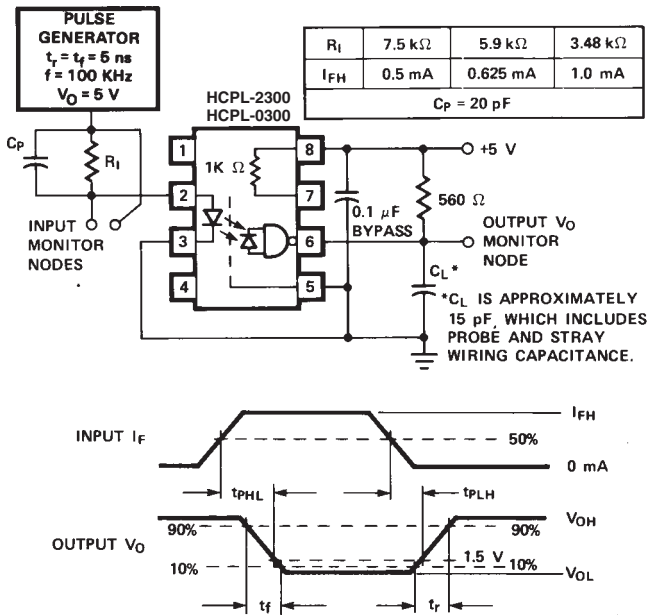

Figure 8. Test Circuit for t_{pHL} , t_{pLH} , t_r , and t_f .
8. C_{P} is the peaking capacitance. Refer to test circuit in Figure 8.